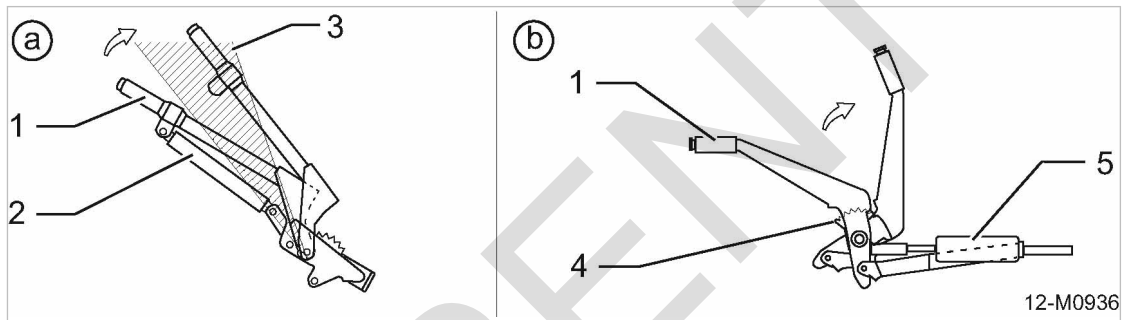

Fig. 88 Actuating the parking brake
2. Pull on the parking brake past the dead point zone (see Fig.88/a).
2. Pull on the parking brake to the last ratchet tooth (see Fig. 88/b).